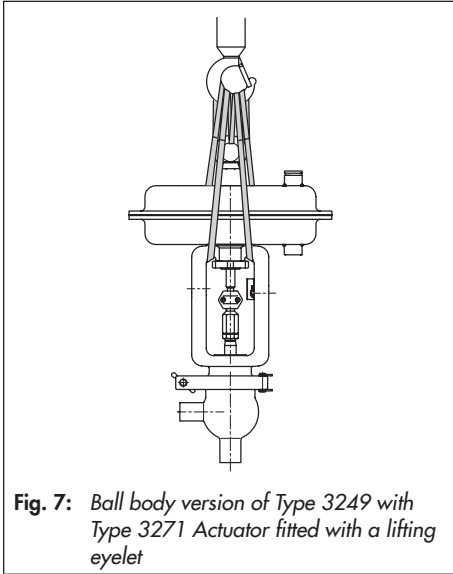

Fig. 7: Ball body version of Type 3249 with Type 3271 Actuator fitted with a lifting eyelet
- Use a hook with safety latch (see Fig. 5, Fig. 6 and Fig. 7) to secure the slings from slipping off the hook during lifting and transporting.
For actuator versions with lifting eyelet, attach an additional sling to the lifting eyelet of the actuator and to the rigging equipment of the crane or forklift (see Fig. 7).